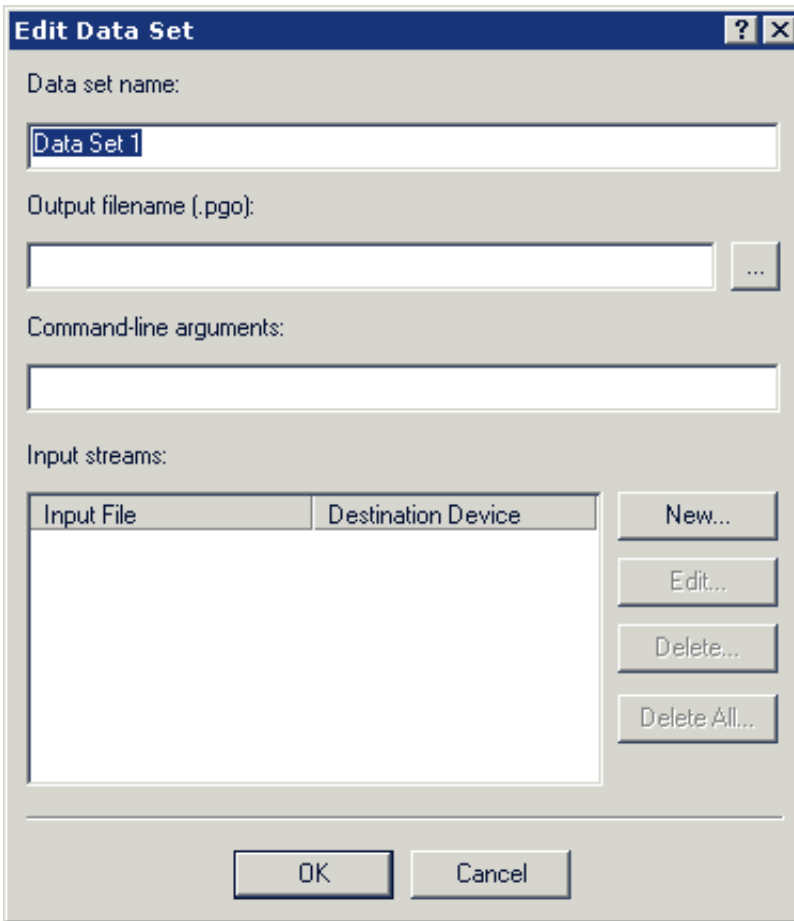

Figure 3-3. Edit Data Set Dialog Box
2. Click the **New** button to open the **Edit Data Set** dialog box, shown in Figure 3-3.